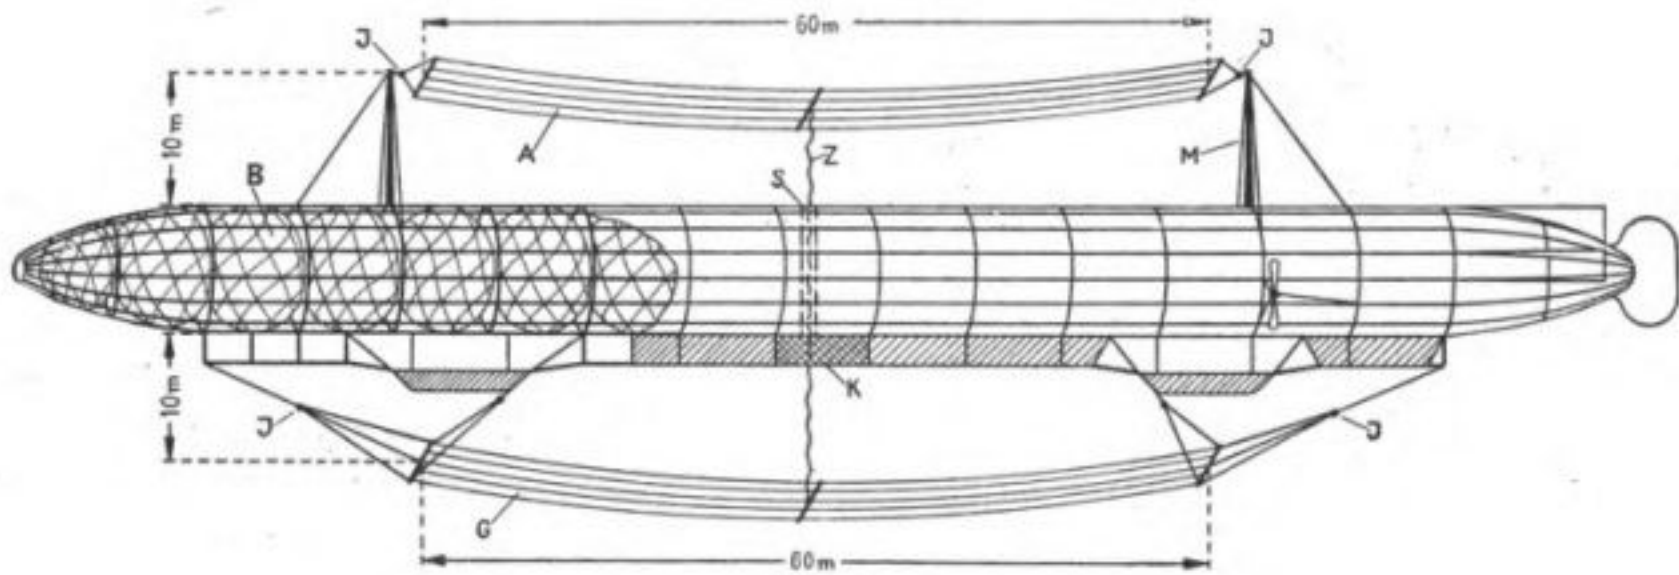
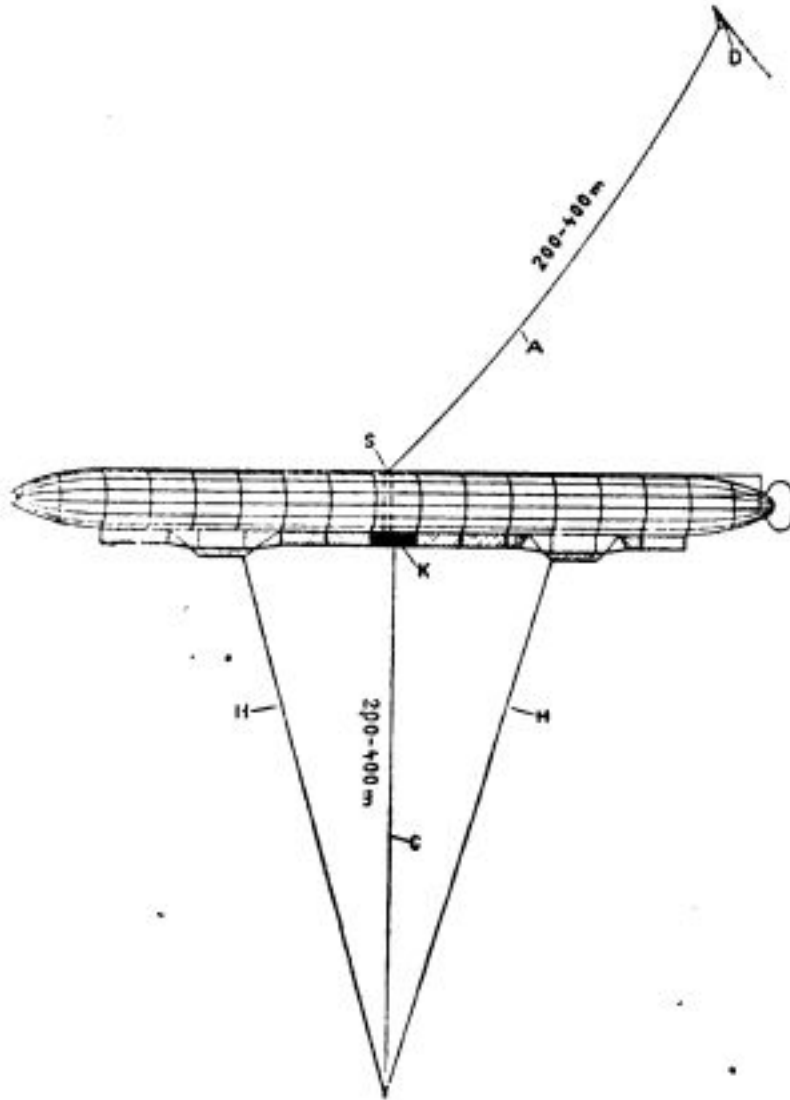
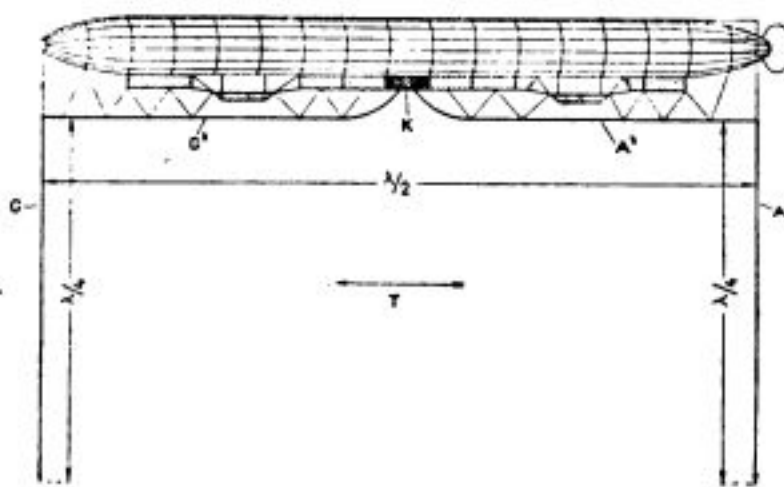

Fig. 1.
Fig. 2.
Fig. 3.
It is not the danger of the direct spark of the spark gap that is so threatening, but the danger of stray sparks leaping from the metal skeleton to the gas bags as in the Zeppelin type shown in Fig. 1, that is to be feared mostly.
Mr. K. Solff, who suggests the various types of airship antennae in this article, does not favor the one shown in Fig. 1, as although it is the ideal one to use on account of being almost perfect from the electrical standpoint, there is still danger from stray sparks. Referring to Fig. 1 MM represent collapsible masts; A, flat-top aerial; G, counterbalance aerial; JJ, insulators; K, operating room; S, open shaft; Z, lead-in from aerials; B, gas-carrying ballonets. It is suggested to have both aerials 60 meters long and 10 meters high.
In Fig. 2, a simpler aerial system is shown. The aerial proper is suspended from the kite D, and is from 200 to 400 meters long. G again is the counterbalance aerial, while HH are insulating cords holding the wire G.
From the electrical point of view, the system shown in Fig. 1 is, of course, better.
Fig. 3 shows an aerial system for directional waves. AA represents the antenna proper, while GG shows the counterbalance. TT will be the direction of the outgoing waves.
He does not tell us what is going to happen when the antennae shown in Figs. 1 and 2 collapse and fall on top of the airship *while the operator in K is sending*. The sparking that will immediately take place will surely explode escaping gas or worse yet, will ignite one or more of the ballonets with disastrous results.
While this does not hold true so much for the antennae shown in Fig. 3, which the writer considers the only real safe one, to a certain degree, it rests to be seen just what is going to happen when the lower aerials of Figs. 1, 2, and 3 touch the ground when landing. The
one shown in Fig. 1 will surely be damaged more or less. The ones shown in Figs. 2 and 3 are not quite as bad off, but might easily get entangled in tree-tops or objects on roofs when sailing low.
All in all, the writer is of the opinion that the aerial system illustrated in Fig. 3 is the most suitable for airships if by means of a motor driven drum the entire aerial can be rolled or hoisted up close to the body of the airship, within a few seconds.
tailed in Fig 2), pivoted at J; handle at L. The conducting strips D and H, of thin sheet bronze or copper, are fastened down at one end by binding posts I and K. Curved strip D is fastened at inner end by an ordinary brass-headed upholstery tack, T. The straight strip H is fastened down, as shown in Fig. 2, by jamb-nut (under the lever) on pivot J, making good electrical contact.
-FIG. 2-
-FIG. 3-
A, B and C, Fig. 2, are strips of thin sheet bronze or copper, one-half inch wide and 2 1/2 inches long, bent into an oval, with ends perforated and hooked over binding-post screws that run up through wooden switch lever. They should have sufficient spring to retain their oval shape and yet yield slightly to the pressure of lever, thus making up for any inequalities in height of switch points. B and C are fastened by jamb-nuts and A by knob L—a wooden teakettle knob, with bottom part sawed off and a jamb-nut sunk in top.
The bow spring shown in Fig. 2 is made of stiff, flat spring brass, 1/2 inch wide, with ends slotted to slip under jamb-nuts at B and J. This spring